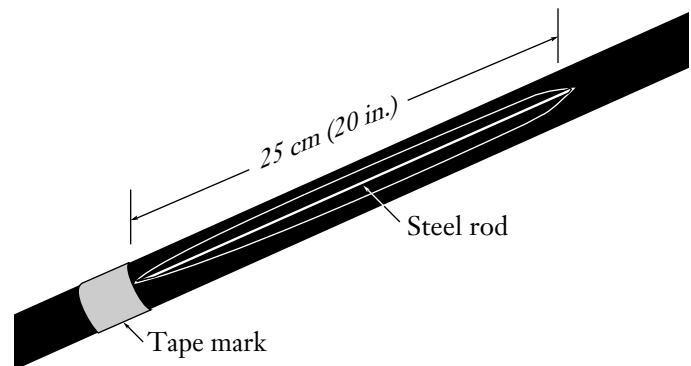

Figure 25
7.5 Starting at one tape mark, use the cable sheath knife to shave off 25 cm (10 in.) of outer sheath over both steel rods. Shave the sheath until both steel rods are visible (Figure 25).